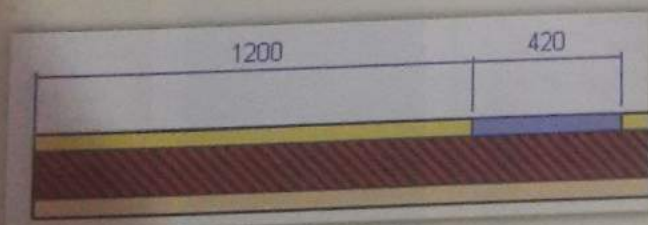

Figure 73: Assign Layer.
3. Then pick on the splited portion as shown in the below image (Figure 73).